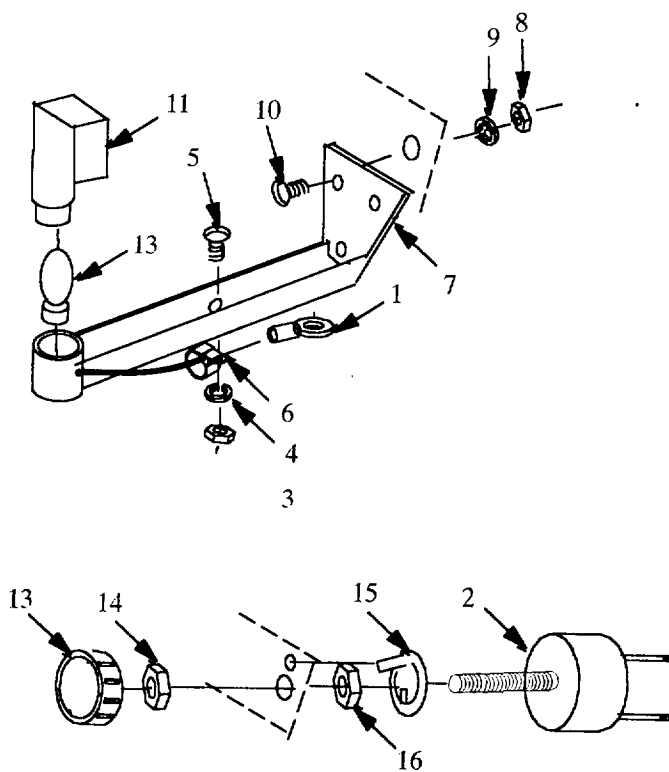

Figure 4-50.1. Panel Light/Rheostat Replacement (Model 350 PAFN).
**4.13.10.5 Removal.** (Refer to figure 4-50.1)**WARNING**
- a. Disconnect wire (1) from rheostat (2) behind control panel.
- b. Remove nut (3), lockwasher (4), and screw (5) and clamp (6) from bracket support (7).
- c. Remove nuts (8), lockwashers (9), screws (10) and bracket support (7) from control panel.
- d. Remove hood (11) and incandescent light (12) from bracket support (7).
- e. Disconnect wires from rheostat (2).
- f. Loosen setscrew in knob(13) and remove knob from rheostat (2).
- g. Remove nut (14) and pull rheostat (2) from back of control panel.
- h. Remove locating washer (15) and nut (16) from rheostat (2).
**4.13.10.6 Repair.** (Refer to figure 4-50.1)
**4.13.10.7 Installation.** (Refer to figure 4-50.1)
- a. Install locating washer (15) and nut (16) on rheostat. Tab on locating washer must point away from rheostat.
- b. Align tap on locating washer (15) with hole on control panel and push rheostat (2) through control panel.
- c. Install nut (14) on shaft of rheostat (2) and secure rheostat to control panel.
- d. Position knob (13) on shaft of rheostat (2) and tighten setscrew in knob.
- e. Position and secure bracket support (7) onto control panel with nuts (8), lockwashers (9) and screws (10.)
- f. Place wire through clamp (6) and secure clamp on bracket support (7) with nut (3), lockwasher (4), and screw (5).
- g. Install incandescent light (12) and hood (11) on bracket support (7).
- h. Connect wires to rheostat (2).